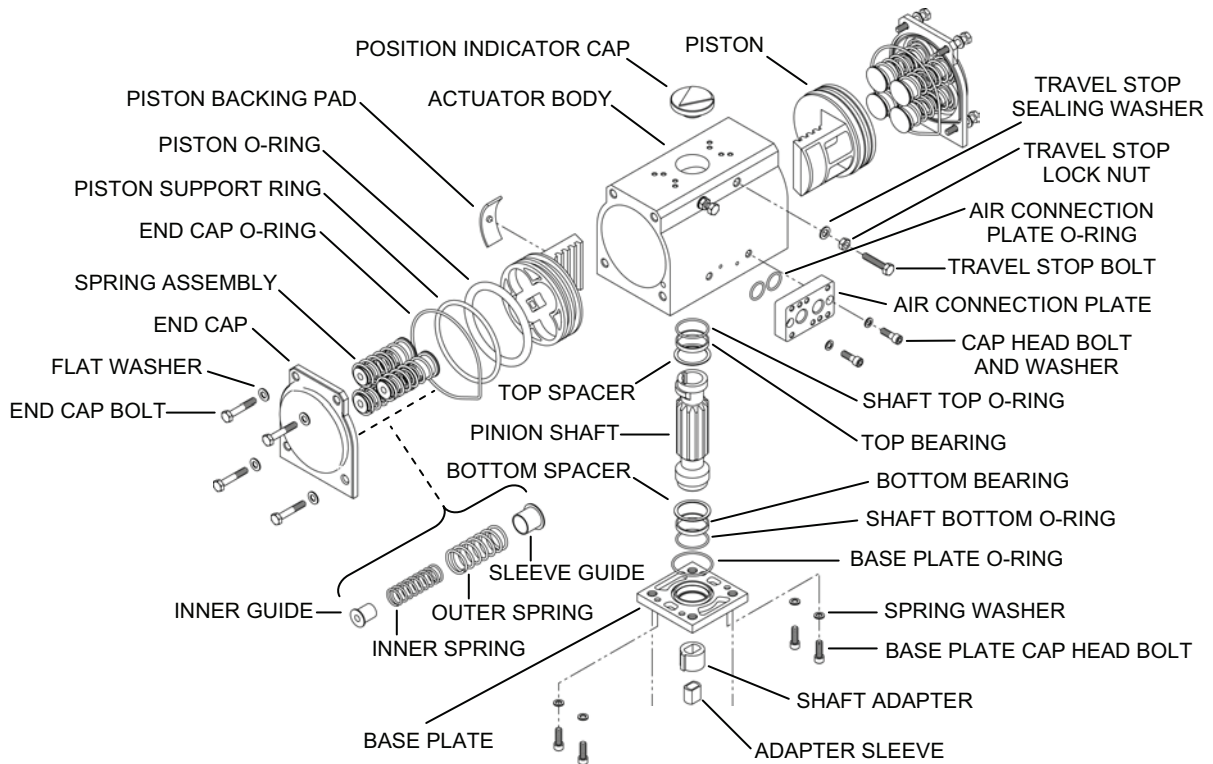

Figure 20. Actuator Disassembly.
1. Disassemble the actuator as follows (see Figure 20):
3. Remove and replace the following components with new components (see Figure 20):
4. Reassemble the actuator as follows (see Figure 20):
- 2) With the air connection plate facing you, insert the right piston into the bore of the actuator body with its backing pad toward you and insert the left piston into the bore with its backing pad away from you (see Figure 20).